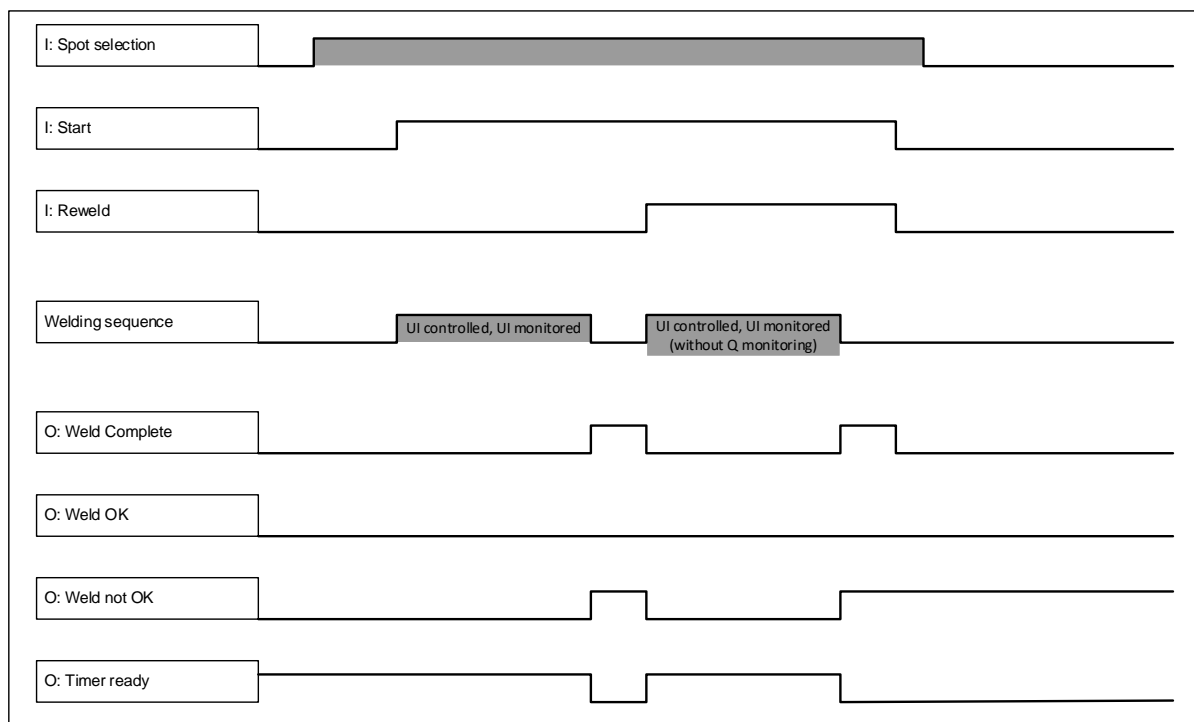

Fig. 6: Reweld not OK
- Reweld not ok (refer to Timer diagram fig. 6):